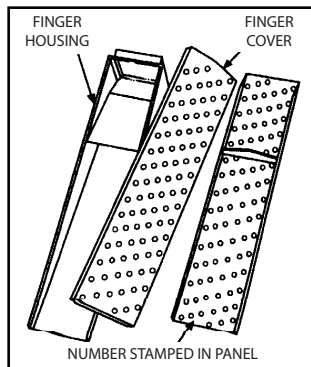

Figure 3
3. Assemble fingers as shown in **Figures 3 and 4.**